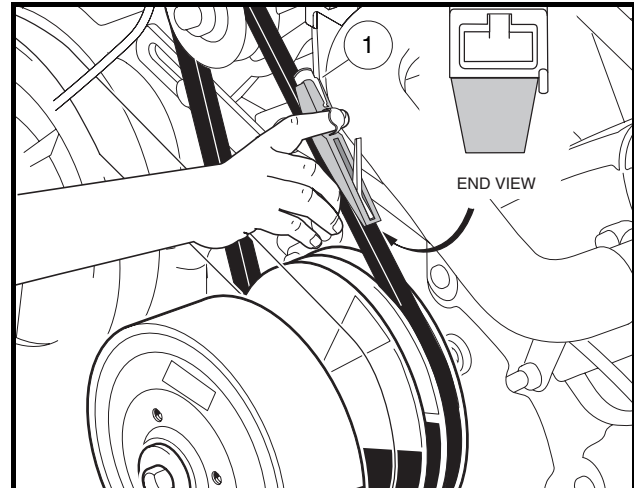

Figure 12-14 Belt Tension Gauge
7. While holding the pry bar, measure the belt tension using a Krikit® gauge (1) (available at NAPA® Auto Parts stores), or equivalent. Proper tension for a new starter/generator belt should be 75 ft-lb (101.7 N·m) or 45 ft-lb (61 N·m) for an existing belt (**Figure 12-14, Page 12-11**).